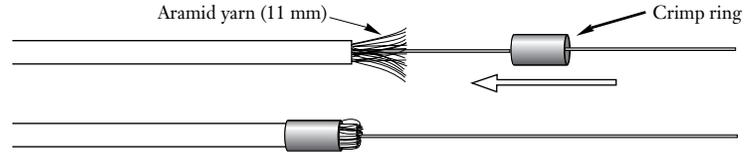

Figure 4-19
- 4.5-7 Fold the aramid yarn back over the cable jacket and slide the crimp ring about 5 mm down the yarn to hold it out of the way (Figure 4-19).